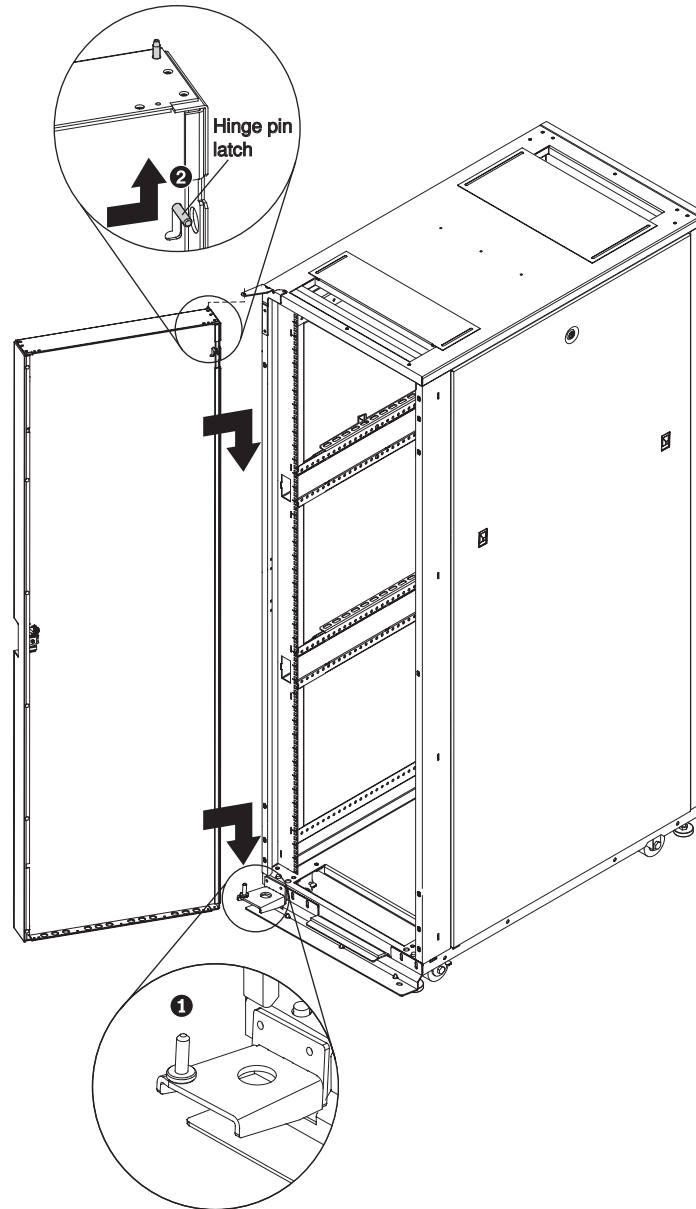

Figure 22. Installing the IBM PureFlex door on the top and bottom hinge brackets (9363-4CX and 9363-4DX)
2. Partially align the hinge pin at the top of the door with the hole in the top hinge bracket (see Figure 22). Push the hinge pin latch up and to the right to retract the hinge pin enough to go into the hole in the hinge bracket **2**. Move the hinge pin latch to the left and down to release the pin fully into the hole in the hinge bracket.